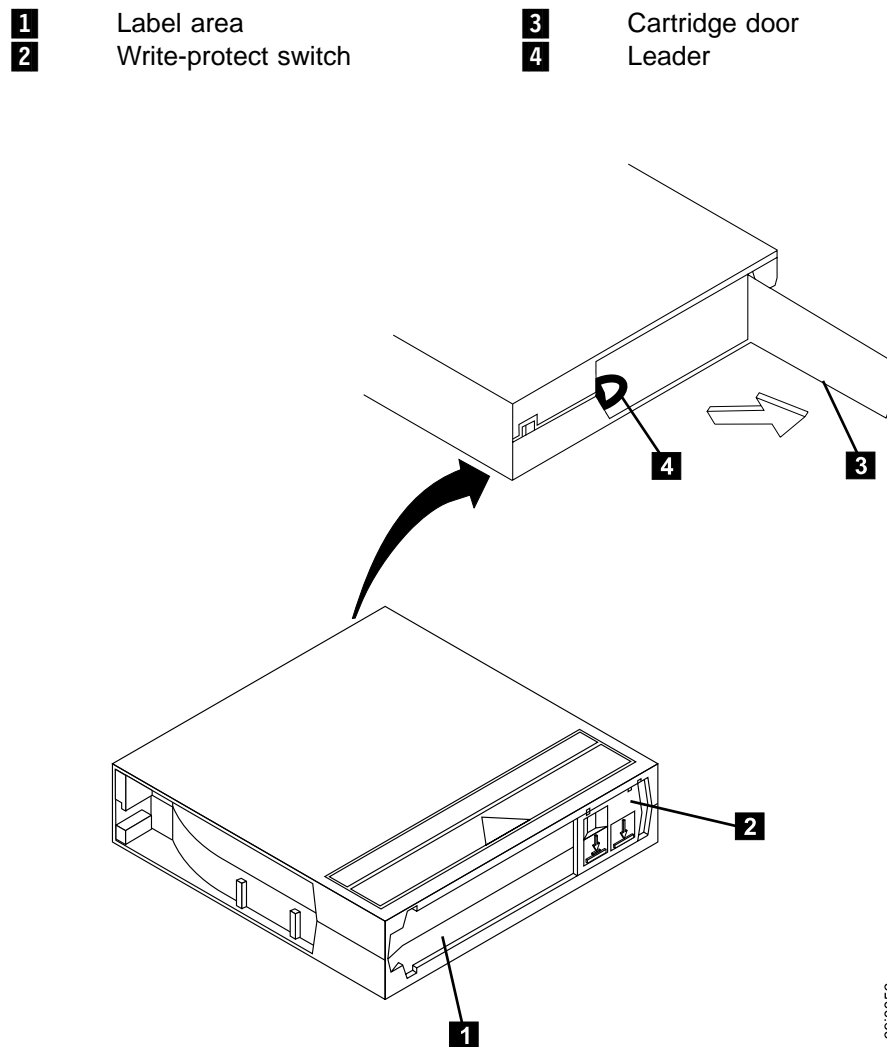

Figure 43. Components of the DLTape IV Data Cartridge
Figure 43 shows the DLTape IV Data Cartridge and its components.
- Position the label within the recessed label area (see **1** in Figure 43 on page 177).